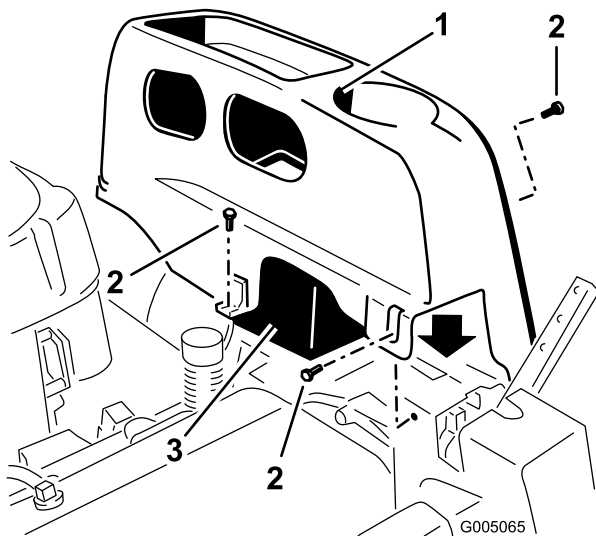

Figure 21
2. Remove the TORX® head fasteners (T25) securing the left cover to the frame as shown in Figure 21.